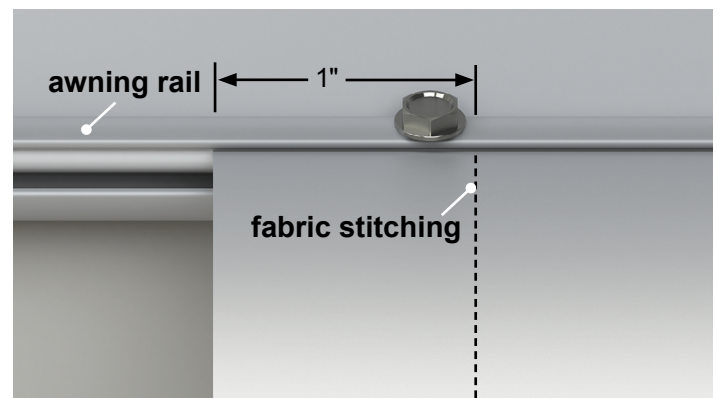

Fig.8
2. Secure the fabric in the awning rail no more than 1" inside the edge of the fabric on both ends using a #6 x 1/2" hex head screw. Install the screw down through the awning rail into the fabric and the polycord (**Fig.8**).